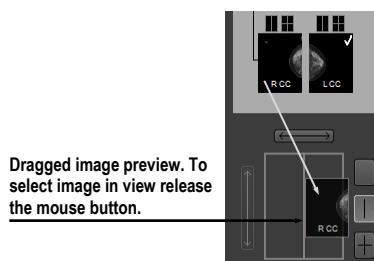

Figure 401 – Dragging an image from the study preview to the layout area
- Use the drag-and-drop technique to drag the image to the screen preview in the image navigator (see Figure 401). The image is displayed in the appropriate view in the mammography workspace on the left or right monitor.